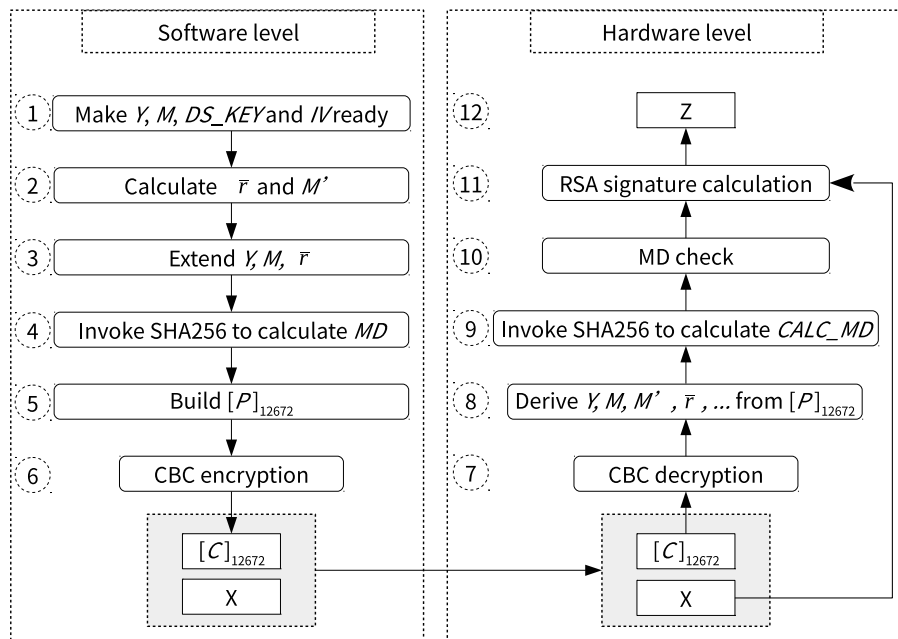

Figure 22-1. Software Preparations and Hardware Working Process
The left side of Figure 22-1 lists preparations required by the software before the hardware starts RSA signature calculation, while the right side lists the hardware workflow during the entire calculation procedure.
1. The software preparation (left side in the Figure 22-1) is a one-time operation before any signature is calculated, while the hardware calculation (right side in the Figure 1-1) repeats for every signature calculation.
Users need to follow the steps shown in the left part of Figure 22-1 to calculate C . Detailed instructions are as follows:
1. Decryption: Step 7 and 8 in Figure 22-1
The decryption process is the inverse of Step 6 in figure 22-1. The DS peripheral will call AES accelerator to decrypt C in CBC block mode and get the resulted plaintext. The decryption process can be represented by $P = \text{AES-CBC-DEC}(C, DS_KEY, IV)$, where IV (i.e., $[IV]_{128}$) is defined by users.
2. Check: Step 9 and 10 in Figure 22-1
The DS peripheral will perform two checks: MD check and padding check. Padding check is not shown in Figure 22-1, as it happens at the same time with MD check.
3. Calculation: Step 11 and 12 in Figure 22-1